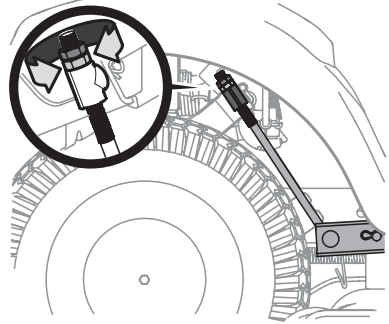

Fig. 40
3. Under the rear fenders inside the wheels there is a lift adjustment rod for each side of the deck (Fig. 40).